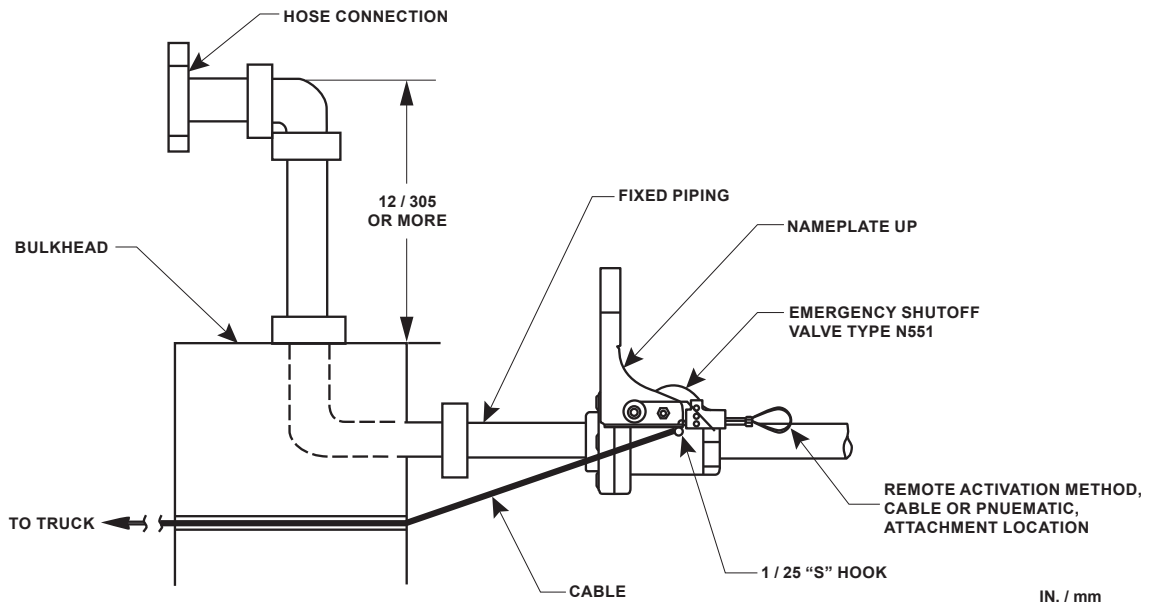

Figure 6. Motion Release Cable Installation (Optional)
1. Connect a suitable release cable such as stainless steel aircraft cable to a standard “S” hook. Attach the “S” hook to the Type N551 handle as shown in Figure 6.
2. The cable should run through the bulkhead just below and to the side of the pipe. The cable should be in line with the operating lever, refer to Figure 6.